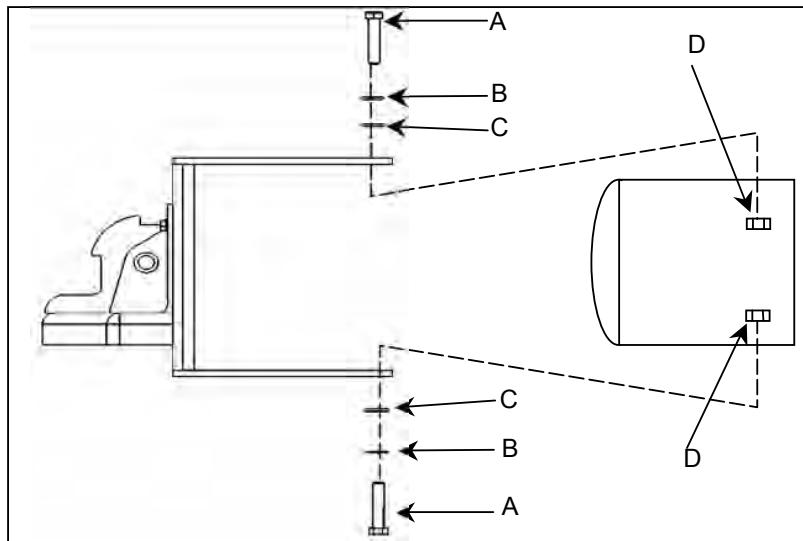

Figure 9.5.3 Nova C-Bracket Installation
- 7) Attach the C-Bracket to the Nova Bumper in 4 places using 1/2-13x1-1/2" bolts, lockwashers, and spacers. See Figure 9.5.3 below. Tighten all fasteners and bolts.